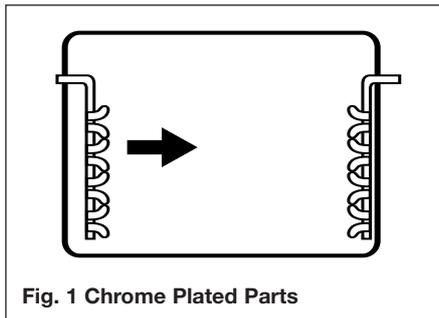

Fig. 1 Chrome Plated Parts
- Note: When positioning the pan support, ensure that the fingers are central to the burners (Fig 1).
Chrome plated parts (Fig 1)
in fig 1.
1. Open access door pull retaining clip upwards (fig. 1).